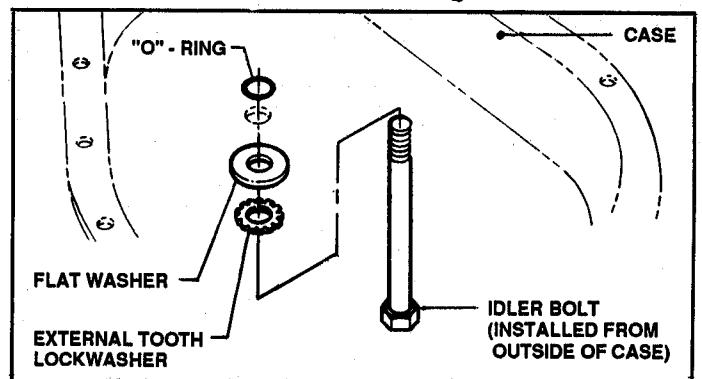

FIGURE 4.26
11. Insert idler bolt into transmission case from outside. Install "O" ring over idler bolt from inside. See Figure 4.26.